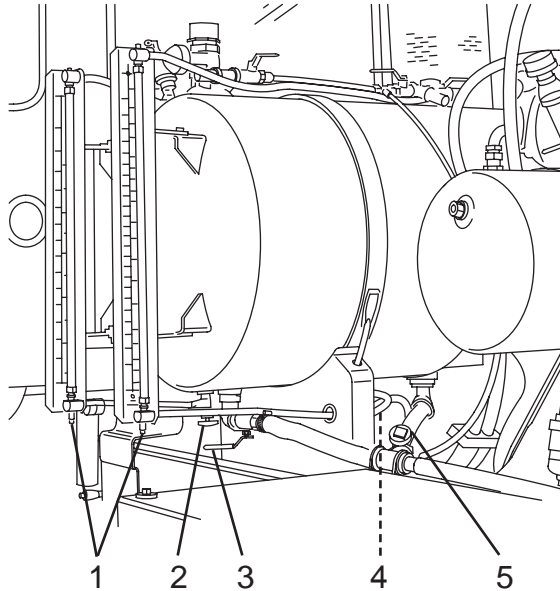

Figure 84
(Figure 84, Item 2).
4. Open the sight glass drain valves (Figure 84, Item 1).